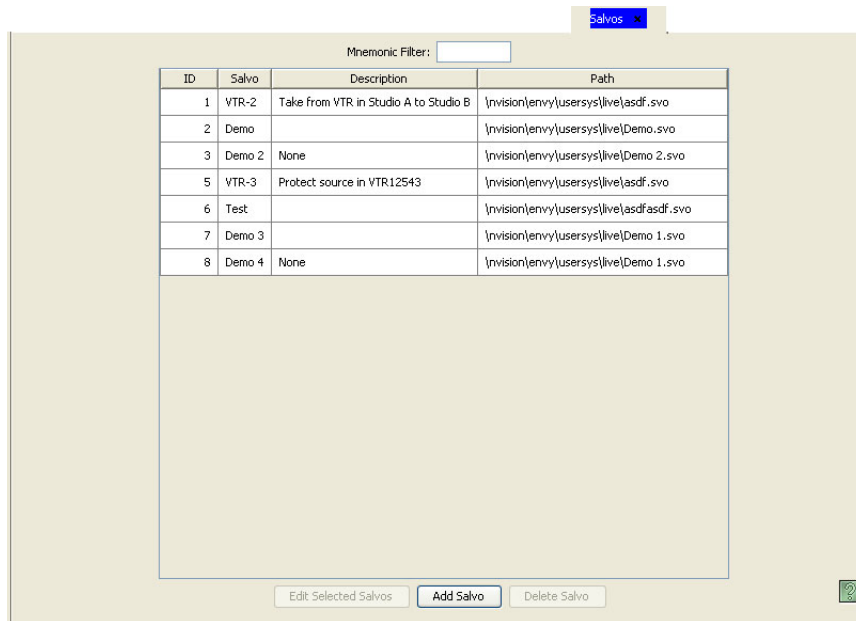

Figure 15-5. Salvos Page
- 2 From the Navigation area, select the ‘Configuration’ pane and then ‘Salvos’. The ‘Salvos’ page displays, as shown in Figure 15-5. All salvos currently defined in the system are listed.